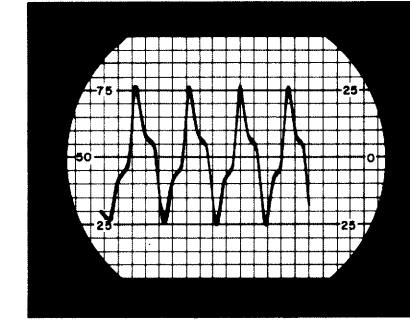

Figure 2.
- Adjust the 1000 cps input signal to 1.5 volt. This should drive the IDC circuit into full clip See Figure 2.
(2) With this input signal level adjust the IDC control on the transmitter to provide a peak-to-peak recovered signal on the oscilloscope of 10 squares, which is equivalent to ± 5 kc deviation as shown in figure 2. A wide-band system should be adjusted for 30 squares (± 15 kc). If the waveform under the above conditions does not resemble the waveform shown in figure 2 adjust L101 until a symmetrical waveform is obtained. Re-adjust the IDC control.
(3) Reduce 1000 cps input to 0.3 volt. Essentially full deviation should still be observed on the oscilloscope. Less than full deviation may indicate a weak audio transistor or other lack of audio gain.
(1) Remove "Vibrasender-sponder" resonant reed from its socket.
(2) Adjust the 1000 cps input signal to 1.5 volts. This should drive the IDC circuit into full clip. See Figure 2.
(3) With this input signal level adjust the IDC control on the transmitter to provide a peak-to-peak recovered signal on the oscilloscope of 10 squares, which is equivalent to ± 5 kc deviation as shown in figure 2. If the waveform under the above conditions does not resemble the waveform shown in figure 2, adjust L101 until a symmetrical waveform is obtained. Re-adjust the IDC control.
(4) Reduce 1000 cps input to 0.3 volt. Essentially full deviation should still be observed on the oscilloscope. Less than full deviation may indicate a weak audio transistor or other lack of audio gain.
(5) Remove the 1000 cps tone signal. Insert the "Vibrasender-sponder" unit in its socket.
(6) Check the "Private-Line" tone deviation. This may be read directly from the oscilloscope by pressing the transmitter on switch on the test set. The tone deviation should be 0.5 to 1 kc.